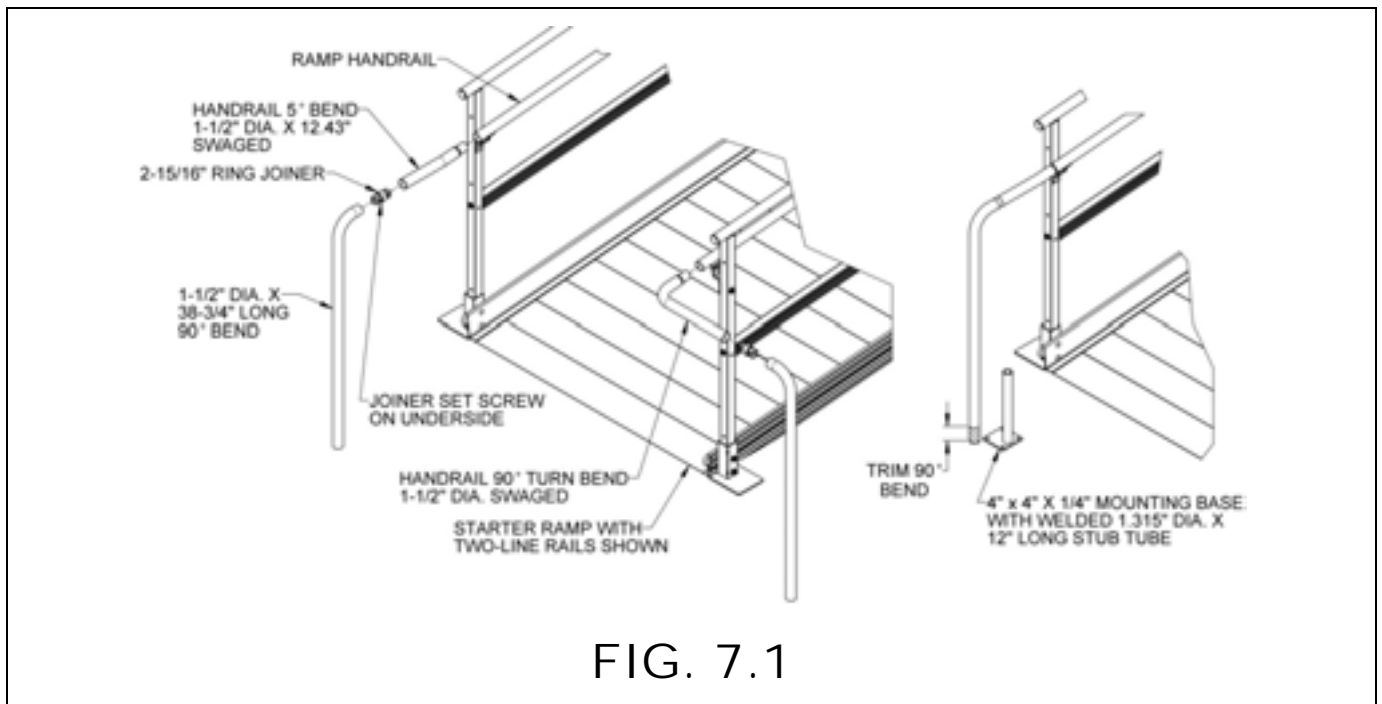

FIG. 7.1
- 7.1.2. Similar to the end loop (refer to 'INSTALL RAMP HANDRAIL END LOOPS' section), insert the swaged end of the handrail 5° bend 1.5" diameter x 12.43" (swaged 5° bend) into the end of a ramp handrail. Use a swaged 5° bend if installing a straight handrail return to ground, use the handrail 90° turn bend 1.5" diameter swaged (swaged 90° bend) if installing a turn handrail return to ground (FIG. 7.1).
- 7.1.3. Insert a 2-15/16" ring joiner with the set screw on the underside of handrail (FIG. 7.1), and then install the 4-1/4" leg of 1-1/2" diameter x 38-3/4" (non-swaged) 90° bend onto the opposite end of the ring joiner with the 38-3/4" leg oriented toward the ground.
- 7.1.4. Hold the swaged 1-1/2" diameter tube bend, either the swaged 5° or swaged 90° bend, level to ground then trim the bottom of the 38-3/4" long, 90° bend such that the bottom is above the weld which attaches the 1.315" x 12" long stub tube to the 4" x 4" x 1/4" mounting base (FIG. 7.1).